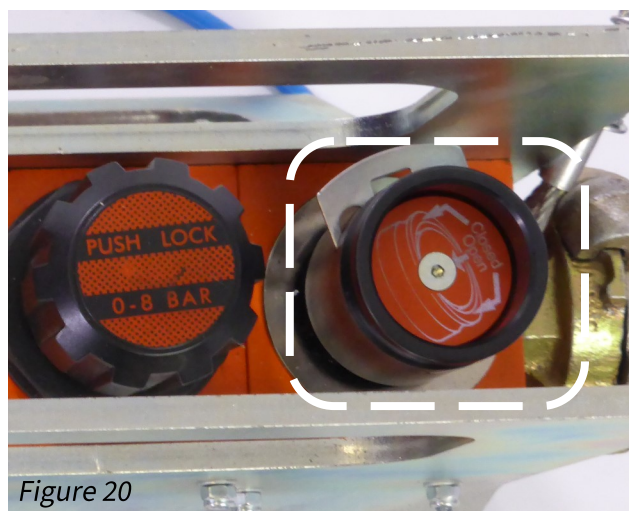

Figure 20
6.9 With the Rapid Window Cutter in the flat position the longitudinal cuts are carried out. The Pivot bolt should be be one of the two central selection holes. First of all carry out a dummy cut in the 12 o'clock position by contacting the front alignment wheels onto the pipe as shown in Figure 20. The dummy cuts allow the Rapid Window Cutter to be configured for the longitudinal cuts and to check the desired depth of cut is achieved. *See 4.9 page 8 if sparking is experienced at any point of the operation.*